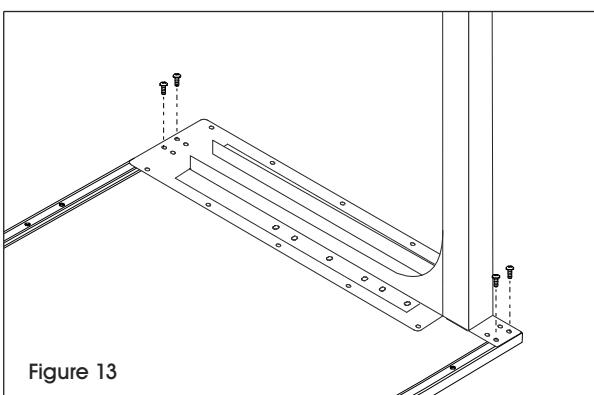

Figure 13
2. Secure L-leg (14) with four 1/4-20 x 5/8" bolts. Threaded inserts are provided. (See Figure 13)